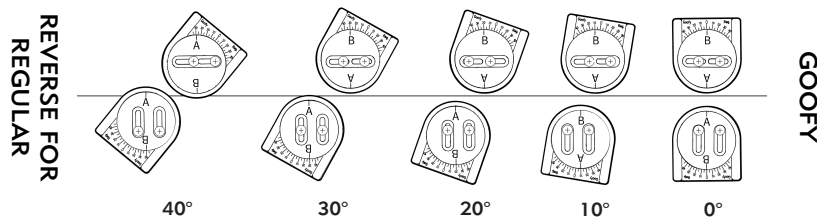

FIGURE 9
**Important Note:** Above is a general guideline. Discs can be used in any combination on the heel-side or toe-side of your board to obtain desired stance width & angles. For example, if you can not get the desired width or angles try switching the Disc with In-line slots with the Disc with Parallel slots. (See Figure 9)